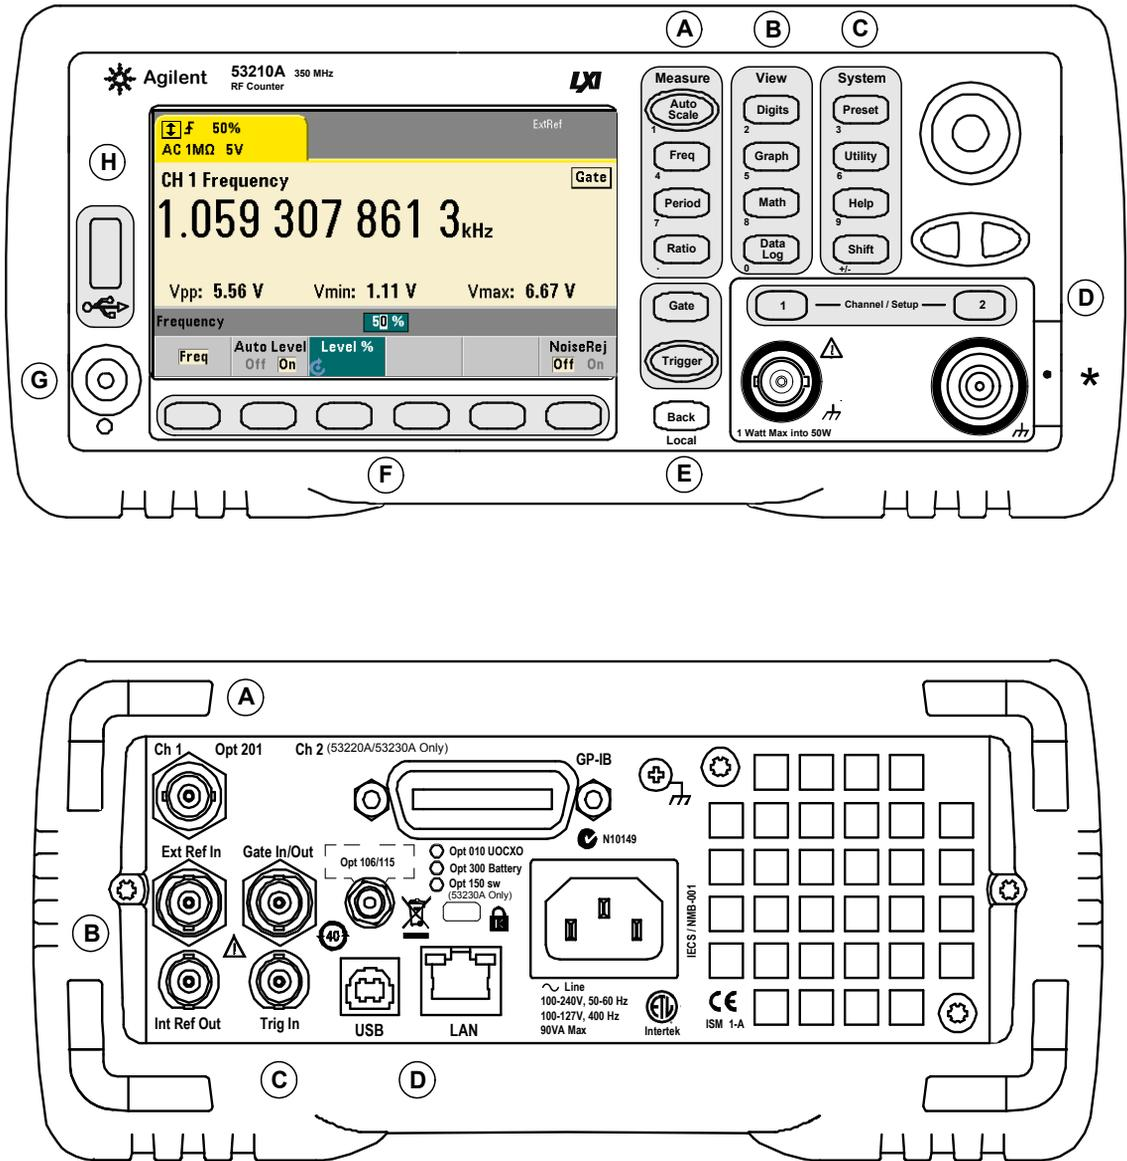

Figure 1-1. The 53210A Universal Frequency Counter/Timer.
Figure 1-1 shows the front and rear panels of the Keysight 53210A 350 MHz RF Counter.
D. Channel Keys - select the input channel and displays the soft key menu used to configure the input signal path. Note that Figure 1-1 includes Channel 3 Option 106 / 115. Signal path configuration is covered in **Chapter 4**.
The 53210A rear panel shown in Figure 1-1 includes product Option 201 (parallel rear panel input) and GPIB interface. The rear panel terminals are briefly described below.